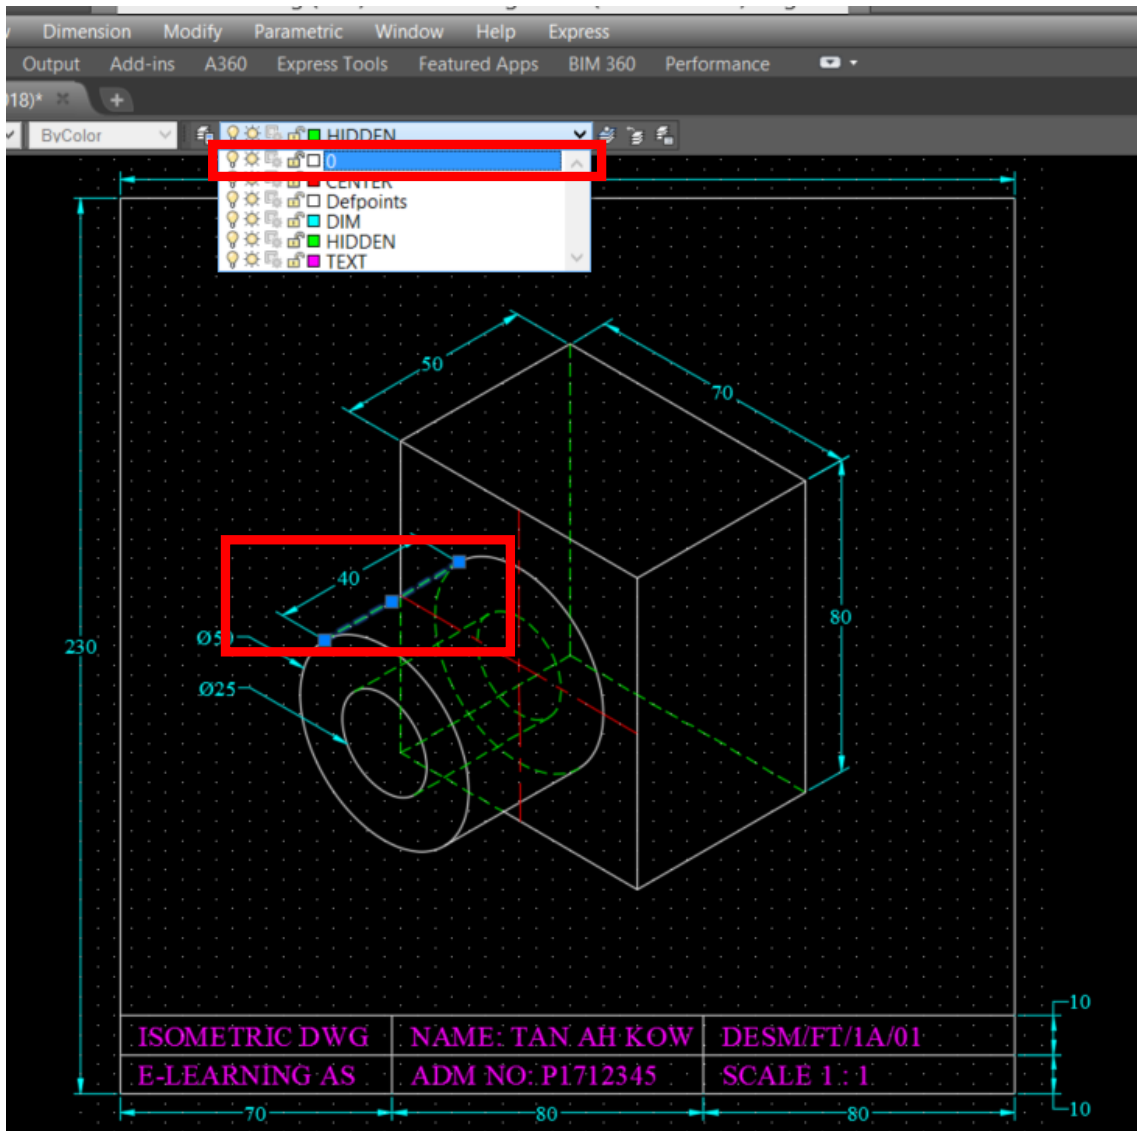

FIG 19
20. As the upper line of the cylinder should be continuous line, it is easy to amend by selecting the line and deposit into the layer "0" as shown below (FIG 19):